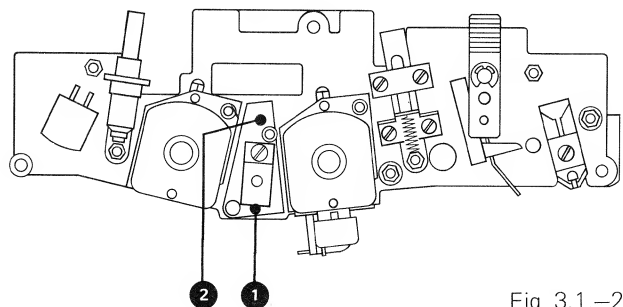

Fig. 3.1.-2
With screw ②, set the roller so that it is slightly inclined to the rear. Check with gauge 4.100.033 as shown in fig. 3.1.-3.